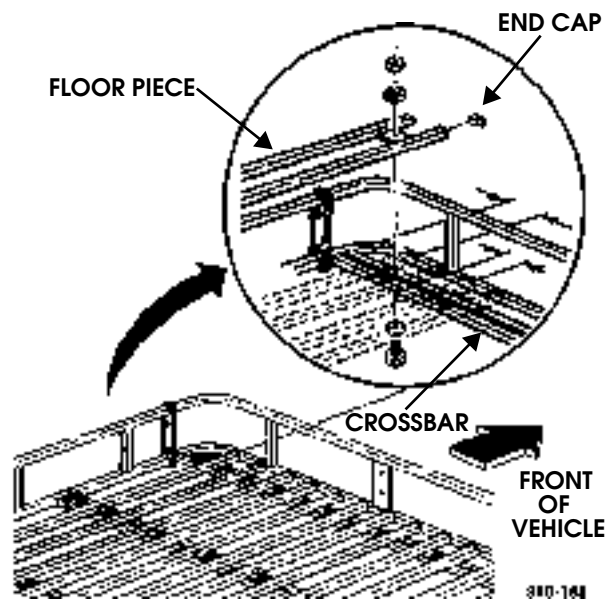

Figure 13-55: Roof Rack Floor Piece
2. Remove four locknuts, washers, bolts, washers, and floor piece from crossbars and rack ends (Figure 13-55).
1. Install floor piece on crossbars and rack ends with four washers, bolts, washers, and locknuts. Tighten locknuts to 25 lb-ft (34 N•m) (Figure 13-55).